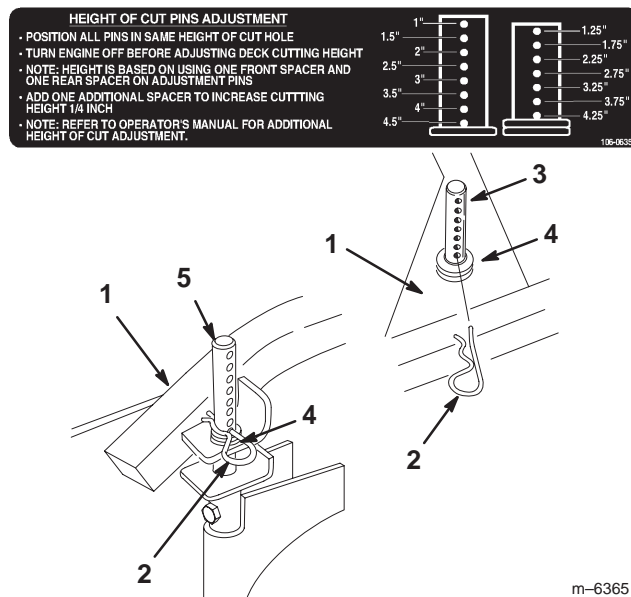

Figure 19
1. Select hole in height-of-cut post and number of spacers corresponding to the height-of-cut desired (Fig. 19).
2. Using lift handle, raise side of deck and remove hairpin cotter (Fig. 19).
3. Add or remove spacers if needed and then align holes and insert hairpin cotter (Fig. 19).